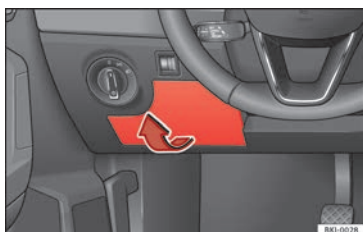

Fig. 69 On the driver-side dash panel: fuse box cover.
- Opening: remove the fuse box cover in the direction indicated » **Fig. 69**.